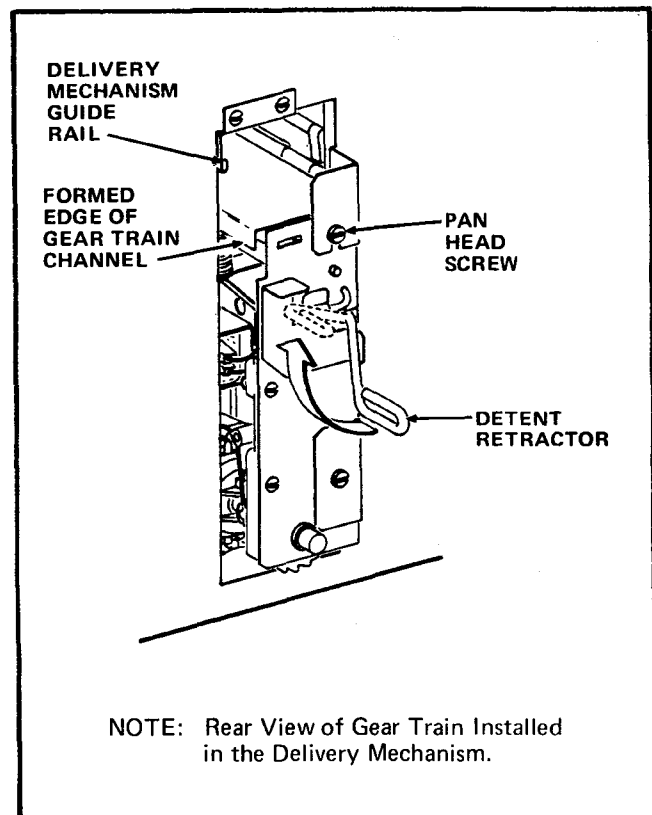

FIGURE 3
- e. Grasp the Detent Retractor and rotate the Retractor upward until the Retractor locks into position horizontally. See Figure 3.